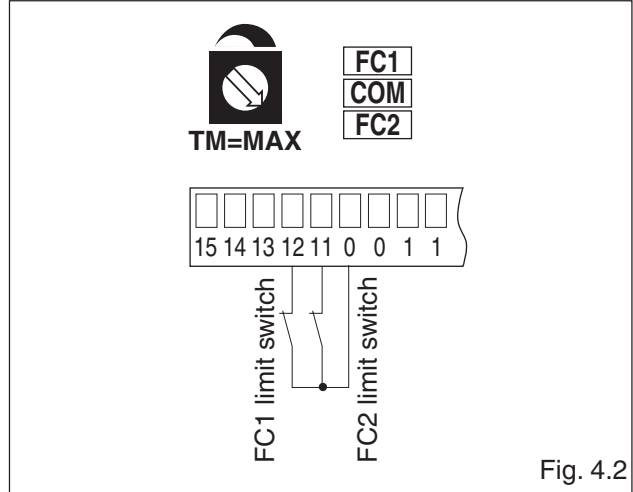

Fig. 4.2
- connect N.C. opening and closing limit switch contacts to terminals 0-11-12 as shown in Fig. 4.2